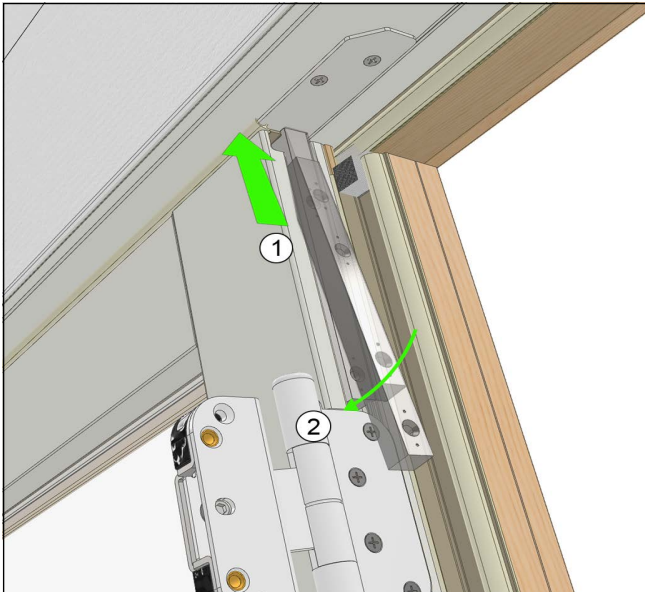

Figure 16
3. Seat the lock bar into the panel Eurogroove and up into the head jamb strike aligning top hole on lock bar to the removed screw hole already in the panel. *Be mindful not to overshoot the bolt as this will cause the head jamb to bow upward.* See Figure 16.